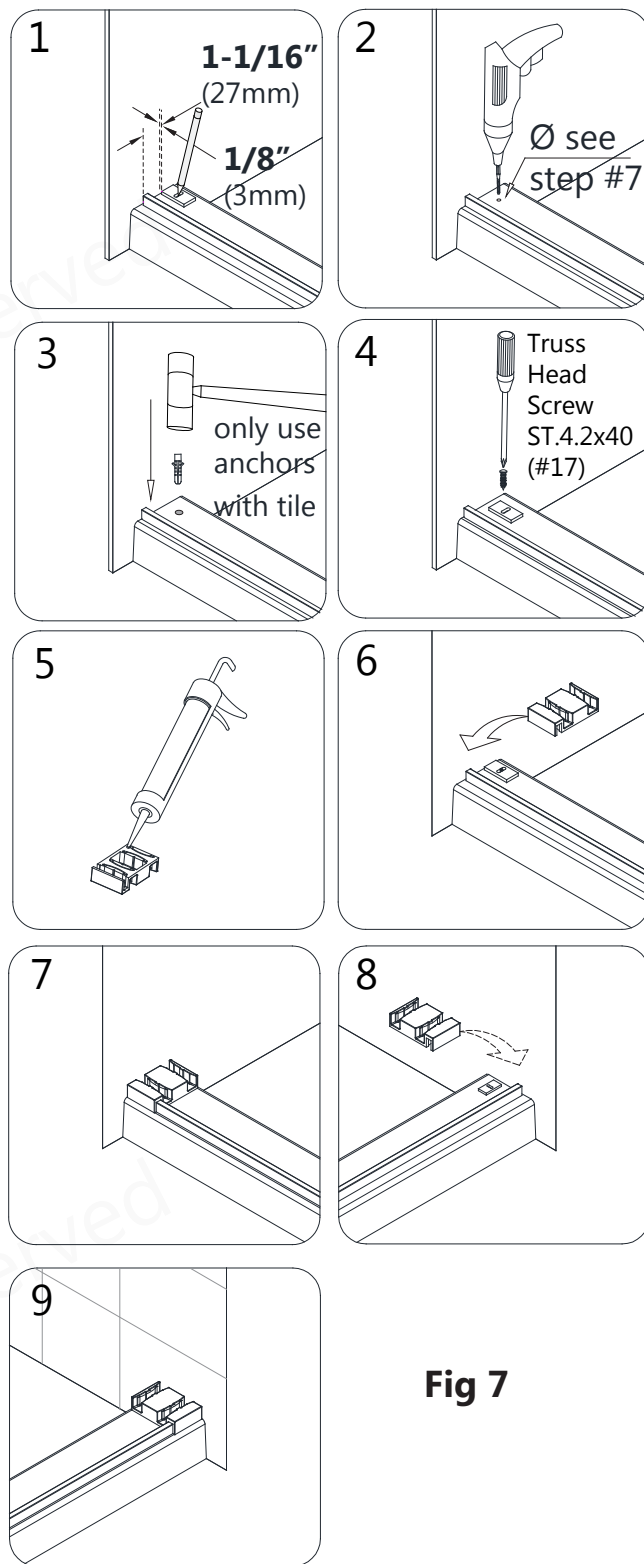

Fig 7
7. Place one of the **Guide Block Brackets (#15)** onto the threshold: **1-1/16" (27mm)** from the outside of the **Bottom Rail (#08)** and 1/8" (3mm) from the wall. Use the Guide Block to check spacing. Mark the hole for drilling. **(Fig 7)**
Repeat this process for the **Guide Block Bracket (#15)** and **Guide Block (#09)** installation on the opposite wall. **(Fig 7)**
Fig 7 detail